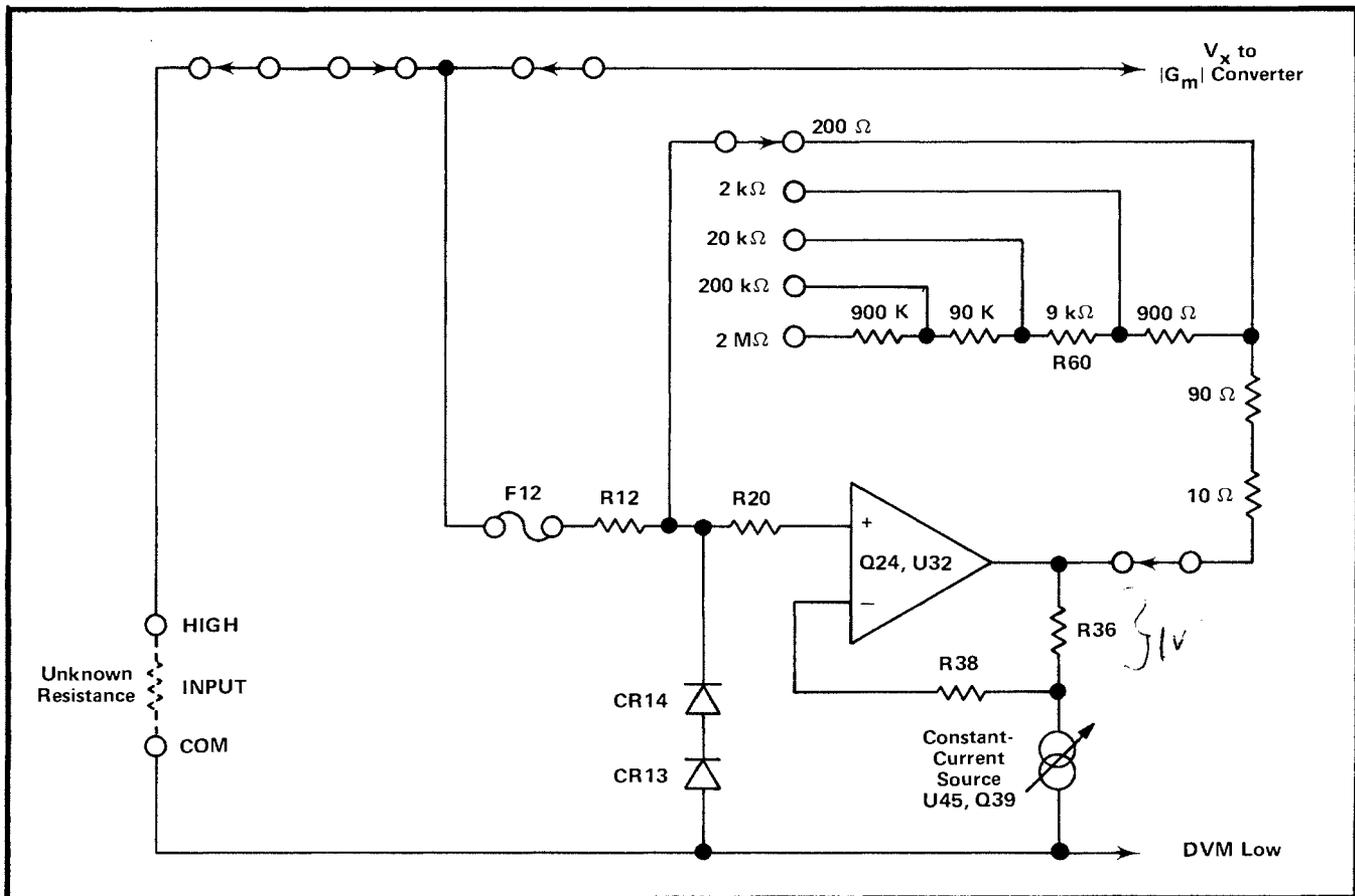

Fig. 3-1. Simplified diagram of the Ohms Converter circuit.
**Ohms Converter.** This circuit is made up of constant-current source Q39 and U45, operational amplifier U32, high-impedance input Q24, and constant-current source Q28. A simplified diagram of the Ohms Converter circuit is shown in Fig. 3-1.